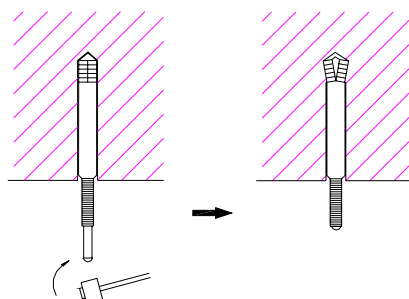

Fig. 32
- (1) Insert a M10 expansion bolt into the hole. Drive a nail into the bolt. Refer to the profile dimensions drawing of the indoor unit for the distance between the holes. Refer to Figure 32 for the installation of the expansion bolt.